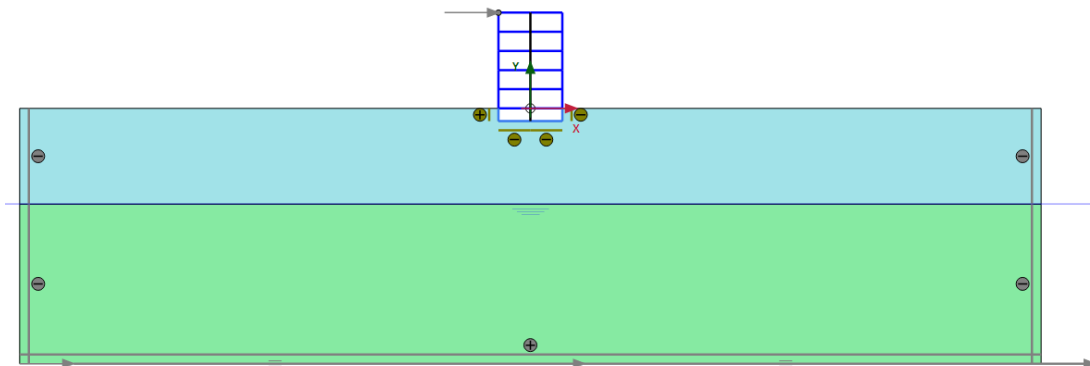

Figure 220: Construction of the building
3. The model for phase 1 is shown in Figure 220 (on page 249).